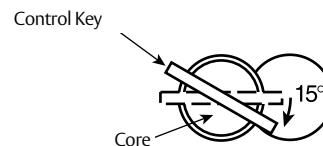

Figure 7 Interchangeable Core Installation
- Insert key marked CONTROL and turn clockwise approximately 15°. See Figure 7.